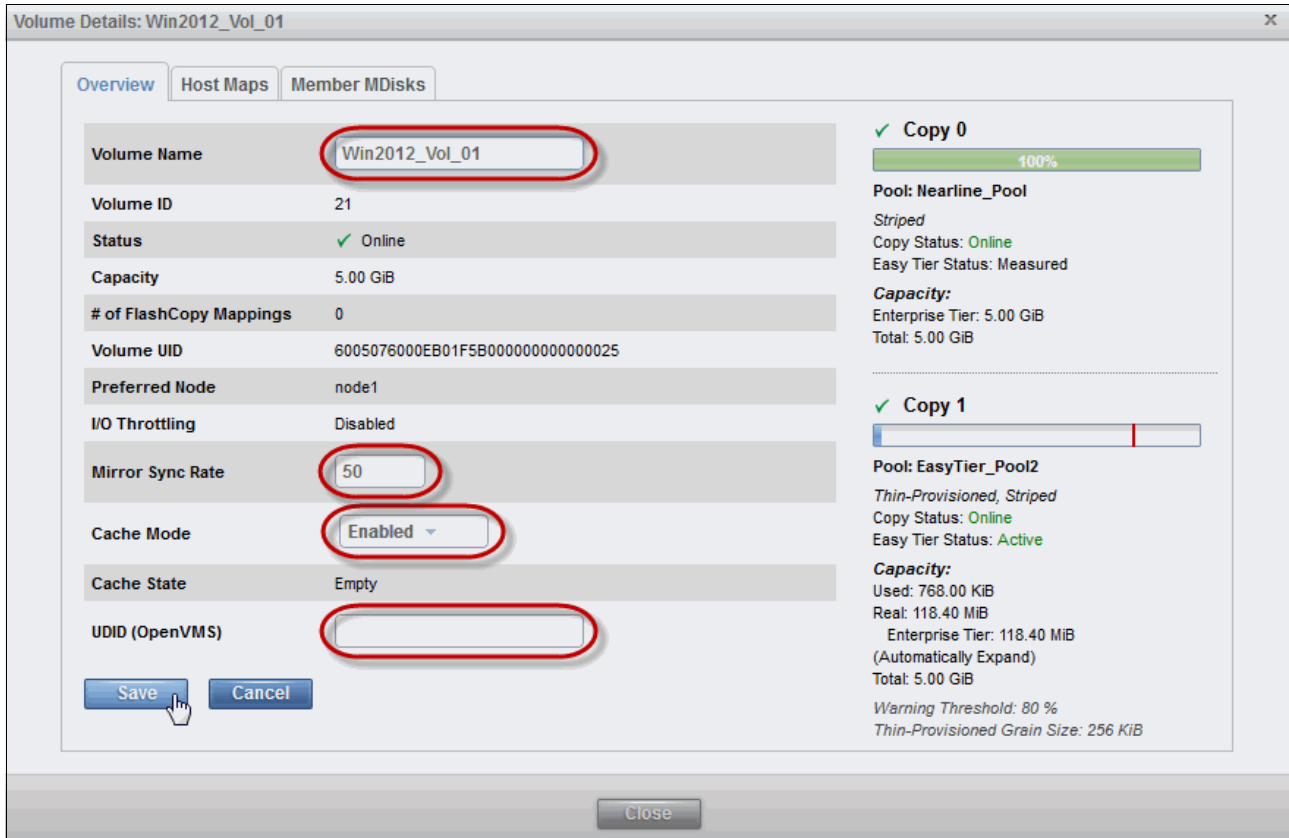

Figure 8-55 Modify Volume Details pane
3. It is possible to modify some of these settings. Click **Edit** to change the available settings, as shown in Figure 8-55.